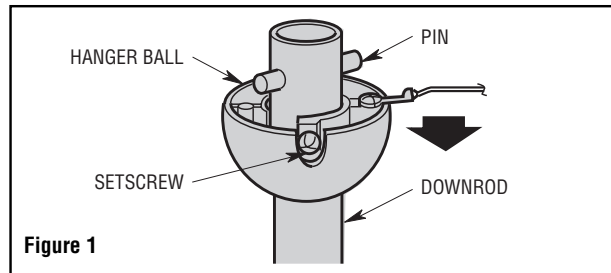

Figure 1
1. Remove the hanger ball by loosening the setscrew in the hanger ball until the ball falls freely down the downrod (Figure 1). Remove the pin from the downrod, then remove the hanger ball. Retain the pin and hanger ball for reinstallation in Step 6.